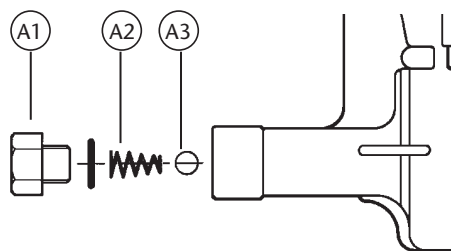

Fig. 2
1. Unscrew the outlet nut (A1) and remove the spring (A2) and the ball (A3) (fig. 2).